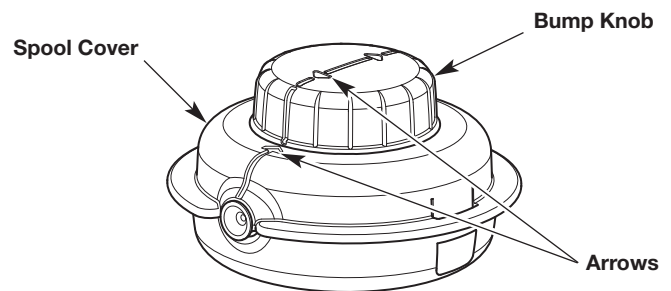

Fig. 15
- Turn the bump knob to align the arrows on the bump knob with the arrows on the spool cover (Fig. 15).